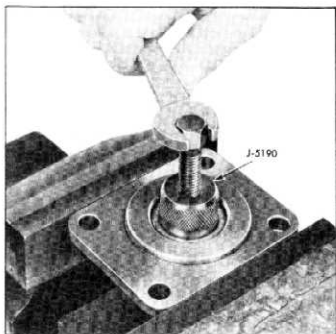

Fig. 38—Removing Bearing from End Cover
1. If the roller bearing in the housing end cover requires replacement, insert remover tool, J-5190 (with the screw backed out sufficiently for the plates to be in flush with the tool body), into bearing and turn the screw (fig. 38). This will expand the plates under the bearing and will then force tool and bearing out.